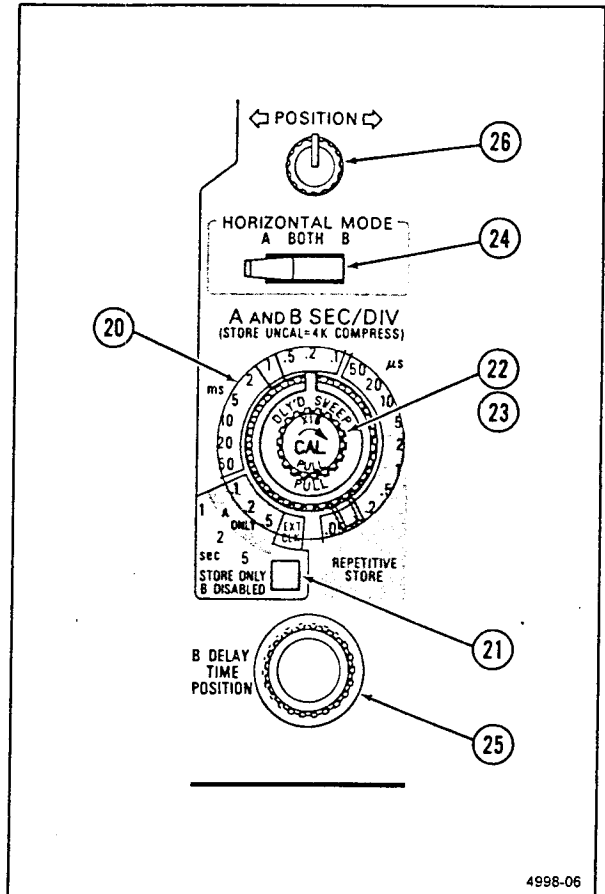

Figure 2-6. Horizontal controls.
Refer to Figure 2-6 for location of items 20 through 26.
- ②0 **SEC/DIV Switches**—Determine the SEC/DIV setting for both the NON STORE sweeps and the STORE mode waveform acquisitions. To obtain calibrated A and B NON STORE sweeps, the Variable SEC/DIV control must be in the CAL detent.